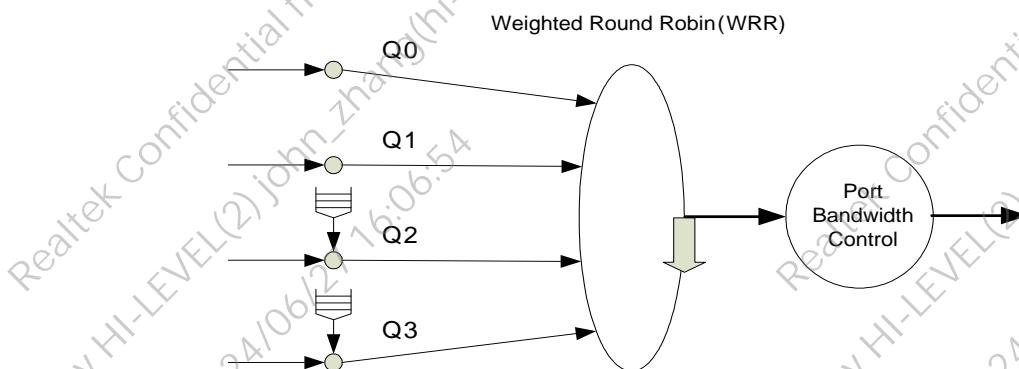

Figure 14. Packet-Scheduling Diagram
- Type I leaky bucket, which specifies the average rate of one queue (see Figure 14; only Q2 and Q3 have leaky bucket, Q0 and Q1 do not). The queue rate can be configured from 0kbps to the line rate in steps of 64kbps
In addition, the RTL8305NB-VC can select one of the two sets of packet-scheduling configurations according to the packet-scheduling mode. Figure 14 shows the RTL8305NB-VC packet-scheduling diagram.